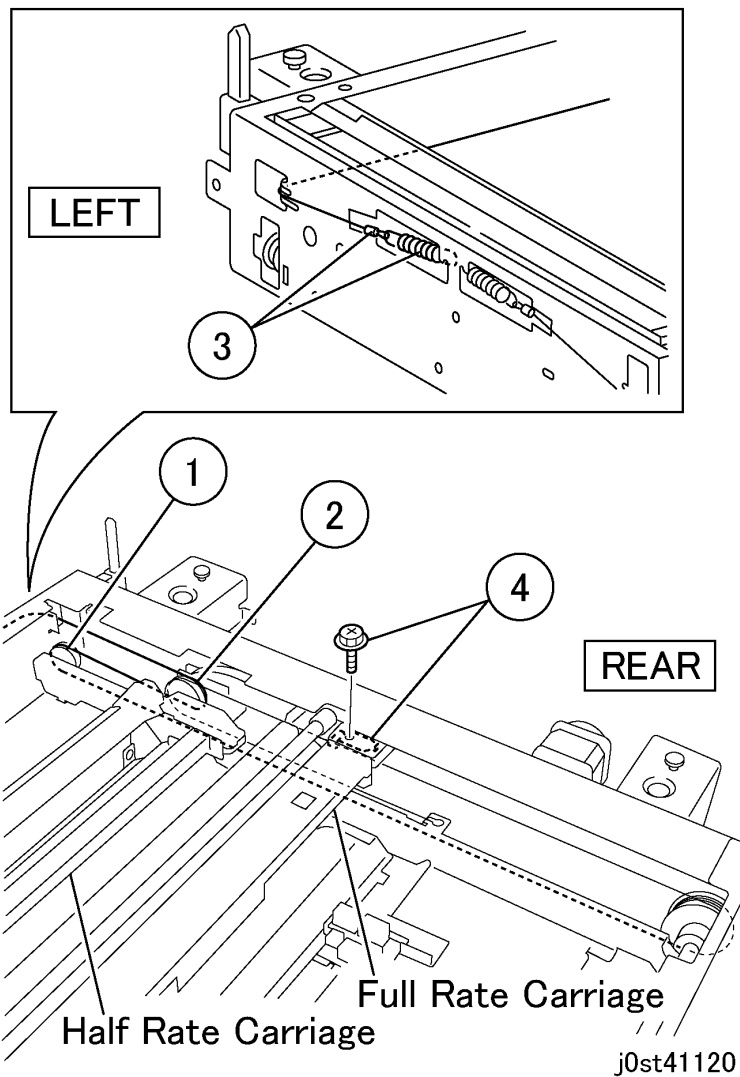

Figure 10 Installing the spring (j0st41120)
3. Install the spring end of the Carriage Cable. (Figure 10)